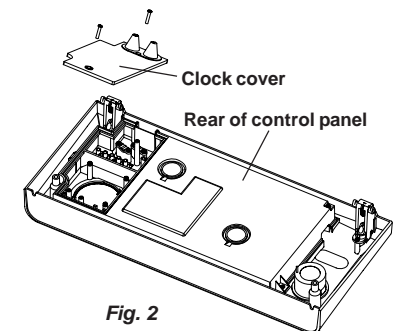

Fig. 2
2. Installation of Receiver into Boiler - see Fig. 2